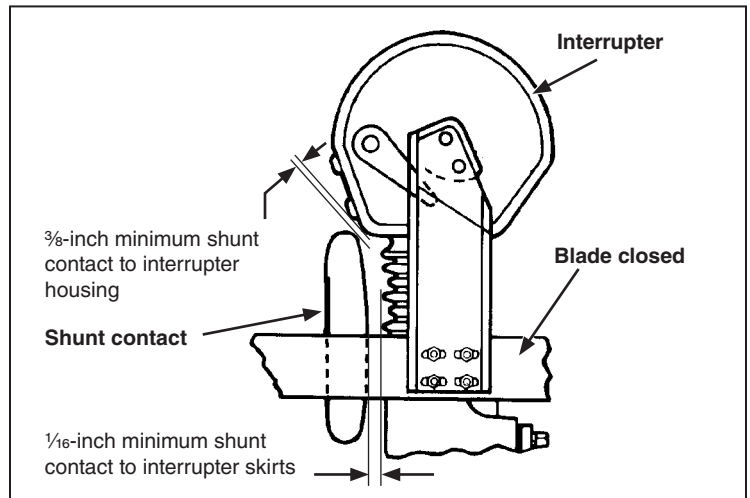

Figure 45. The blade assembly in the fully closed position.
- (b) With the switch in the fully closed position, verify the minimum clearances between the blade shunt contact and the interrupter, measured to the interrupter housing as well as the interrupter skirts. See Figure 45.